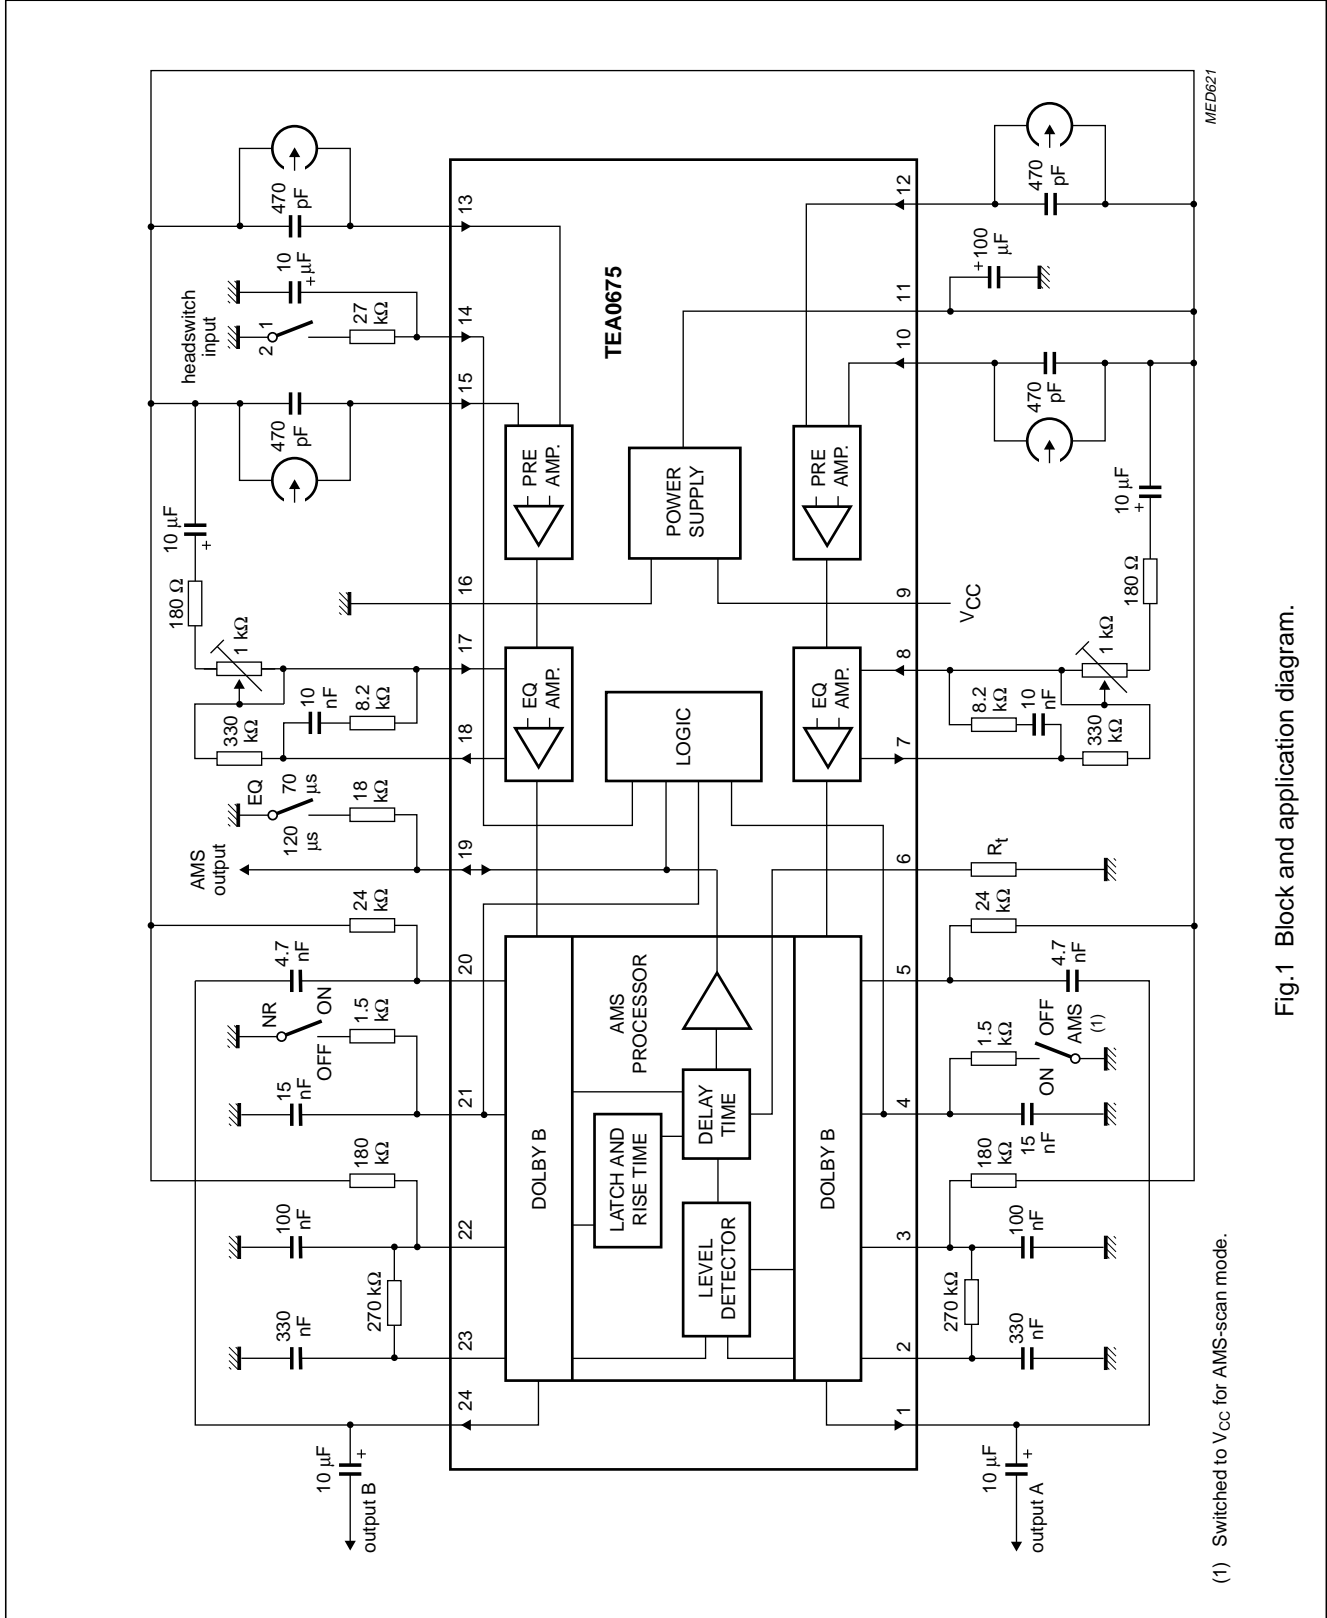

Fig.1 Block and application diagram.
**Equalization time constant switching** (70  $\mu$ s or 120  $\mu$ s) is achieved when pin AMSEQ is connected to GND via an 18 k $\Omega$  resistor (120  $\mu$ s), or left open-circuit (70  $\mu$ s). This does not affect the AMS output signal during AMS mode (see Fig.1).
$V_{CC} = 10\text{ V}$ ;  $f = 20\text{ Hz}$  to  $20\text{ kHz}$ ;  $T_{amb} = 25\text{ °C}$ ; all levels are referenced to  $387.5\text{ mV}$  (RMS) (0 dB) at test point (TP) pin OUTA or OUTB; see Fig.1; NR on/AMS off; EQ switch in the  $70\text{ }\mu\text{s}$  position; unless otherwise specified.